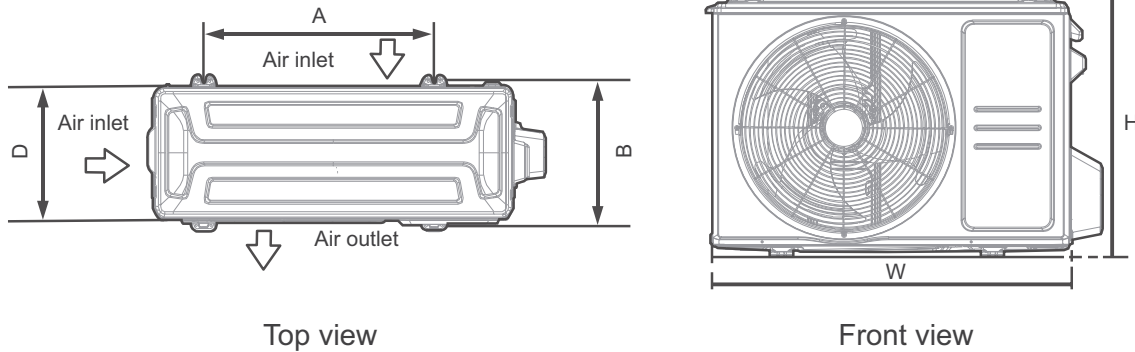

Fig. 10 — Anchor Outdoor unit
- The outdoor unit can be anchored to the ground or to a wall-mounted bracket with bolt (M10). Prepare the installation base of the unit according to Figure 10.